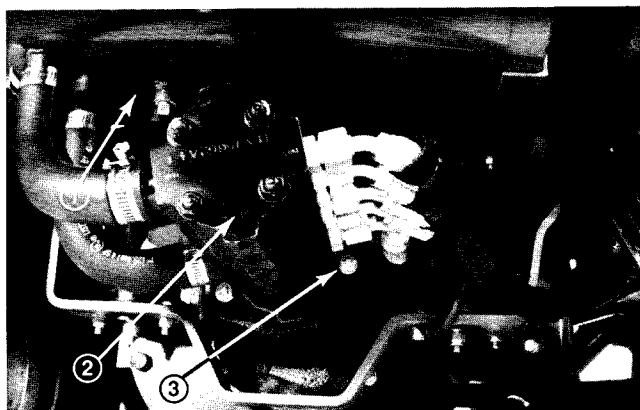

Figure 19
1. Drain the hydraulic reservoir (Fig. 19).